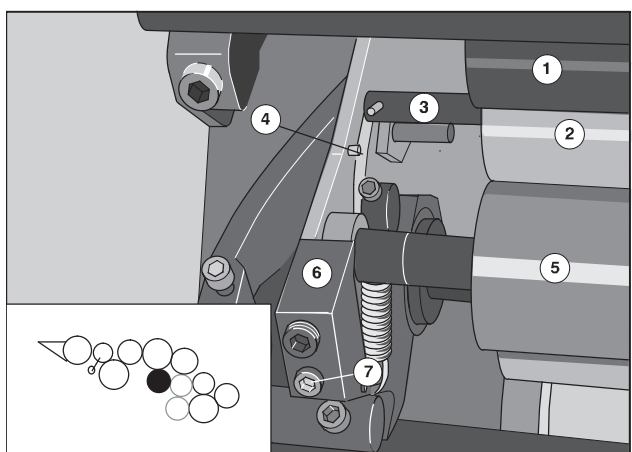

Fig. 39 2nd ink transfer roller (Rilsan)
1. Pull the 2nd ink transfer roller (Fig. 39/1) against slight resistance from the plate cylinder into both bearings.
1. Set the 3rd ink transfer roller (Fig. 39/2) against the 2nd ink transfer roller and press the roller shaft (Fig. 39/3) behind the pins on D.S. (Fig. 39/4) and O.S.
1. Insert the 4th ink transfer roller (Fig. 39/5) on both sides in the bearing.
2. Fold up the latch on D.S. (Fig. 39/6) and O.S.
3. Screw in Allen screw (Fig. 39/7) on D.S. and O.S. using the operator tool.